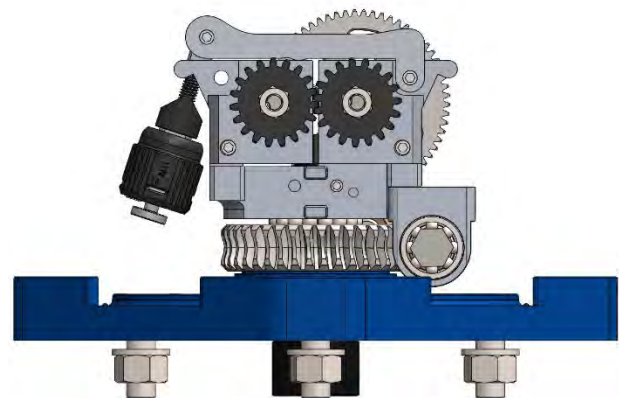

Figure 16
2. Unscrew the pressure knob located on the side of the Twister. Figure 16;